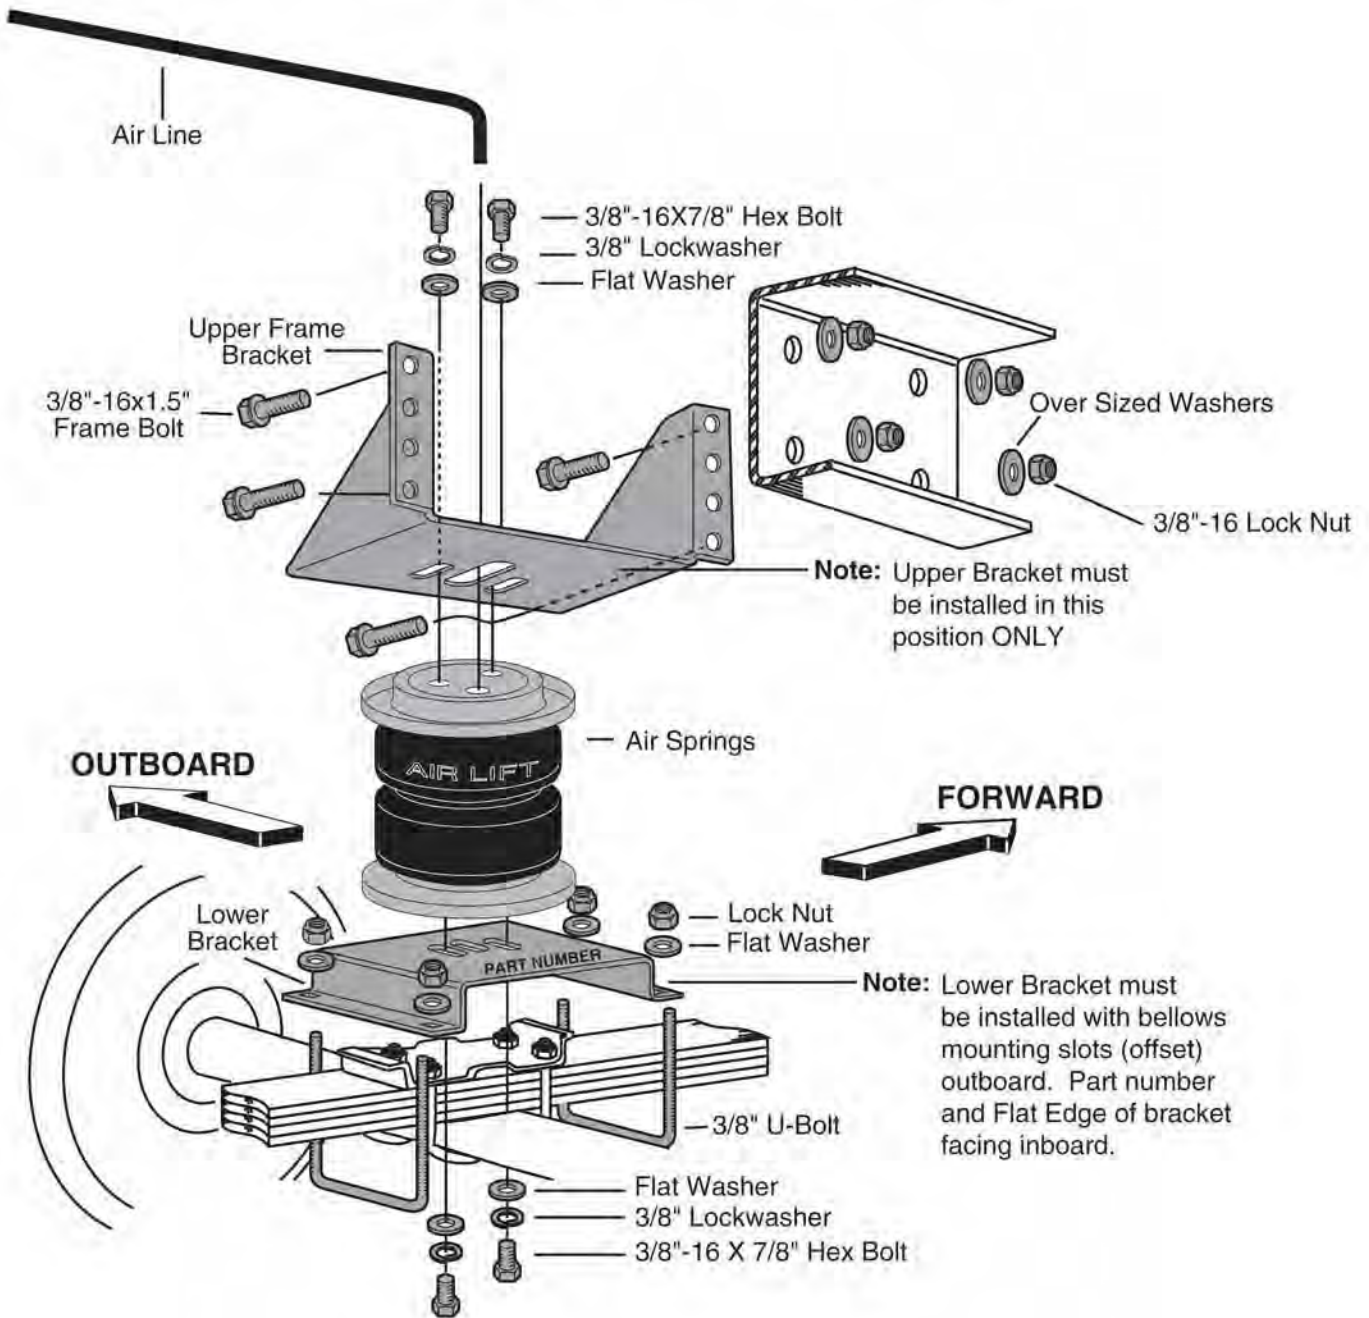

Figure 1
1. Set a roll plate on both ends of the air spring. The radiused (rounded) edge of the roll plate will be towards the air spring so that the air spring is seated in both roll plates (Figures 1,4 and 5).